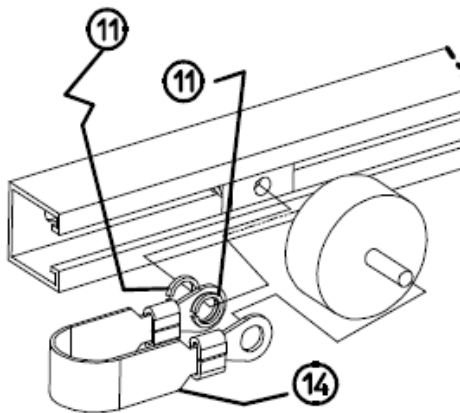

Figure 5: Grounding Strap
1. Locate (4) 3/8" unistrut spring nuts (**item 1**) (refer to the **Tank/Wall Mount Assembly drawing in the back of this guide**). Install one on the upper unistrut rung approx. 2" from the left end and another one 21 1/4" to the right of the first one.
3. Install and tighten a vibration damper (**item 12**) on each of the spring nuts on the upper unistrut.
4. Position one end of the grounding strap (**item 14**) over the lower-left spring nut, placing a lock washer (**item 11**) in front of, and behind the strap. Insert a vibration damper through the strap and the lock washers and secure to the spring nut (**fig 5**). Position the other end of the grounding strap over the end of the vibration damper. This will be held in place when the monitor is mounted. Install the last vibration damper in the lower-right spring nut.